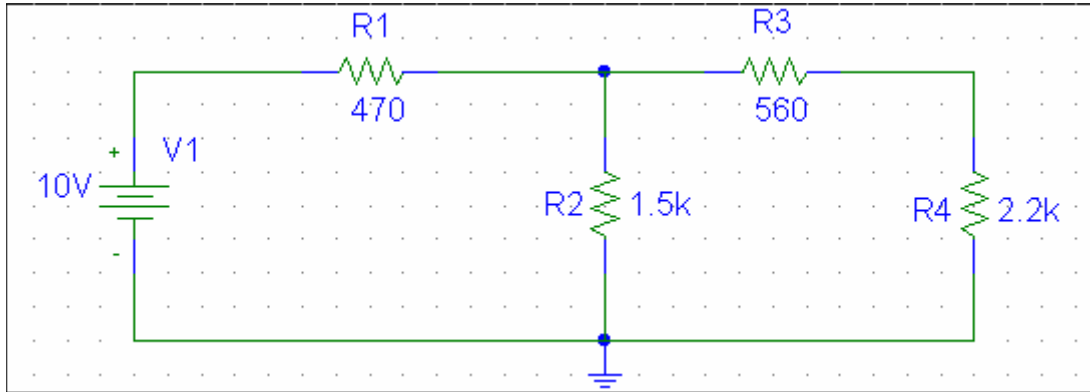

Figure 1 – PSPICE Schematic of a Resistive Network
(Refer to Figure 1 below)
- ❑ Finish wiring the components as shown in Figure 1 (don't worry if your schematic doesn't look exactly like the figure-we will fix it soon)
- ❑ Double click each resistor value and change them to the values shown in Figure 1 (e.g., for **R1**: enter **470** for 470 Ohms; **R2**: enter **2.2k** for 2.2k Ohms)